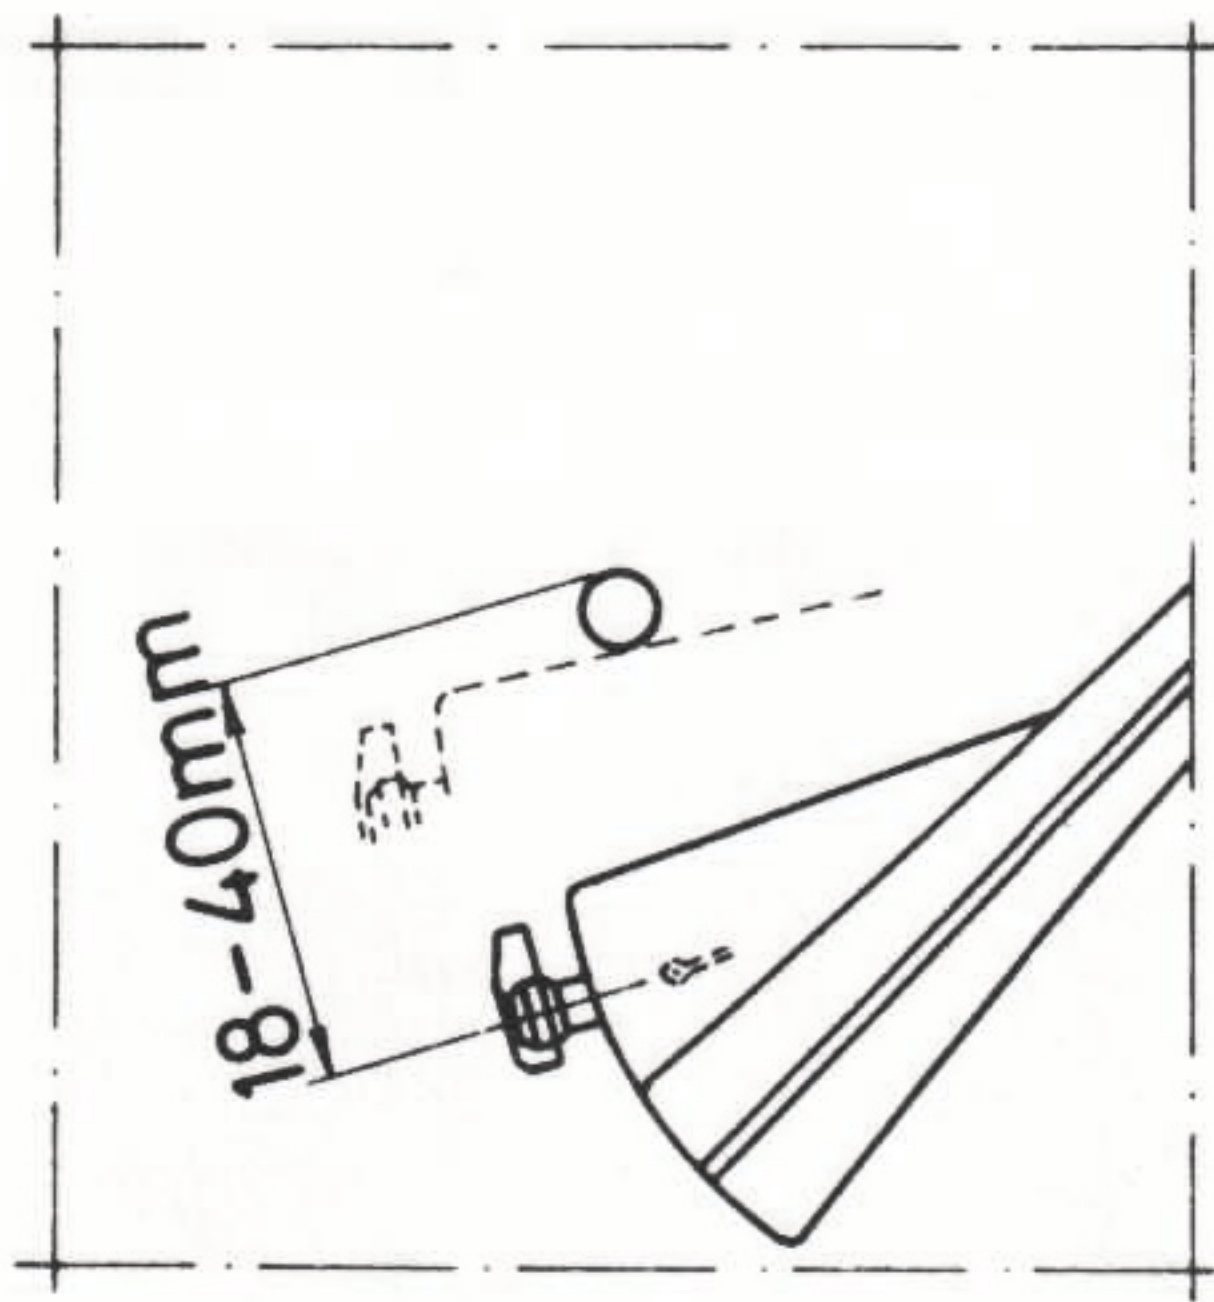

Fig. 13
INNERLÄGET JUSTERAS GENOM ATT TONARMEN FÖRES INÅT MOT CENTRUM, VARVID DEN VERTIKALA FLIKEN (17) PÅ MANÖVERARMEN (14) BOCKAS, SÅ ATT NÅLMIKROFONENS NÅLSPETS FÅR ETT AVSTÅND MELLAN 18 OCH 40 MM FRÅN CENTRUMAXELNS "BAKSIDA". FIG 13.